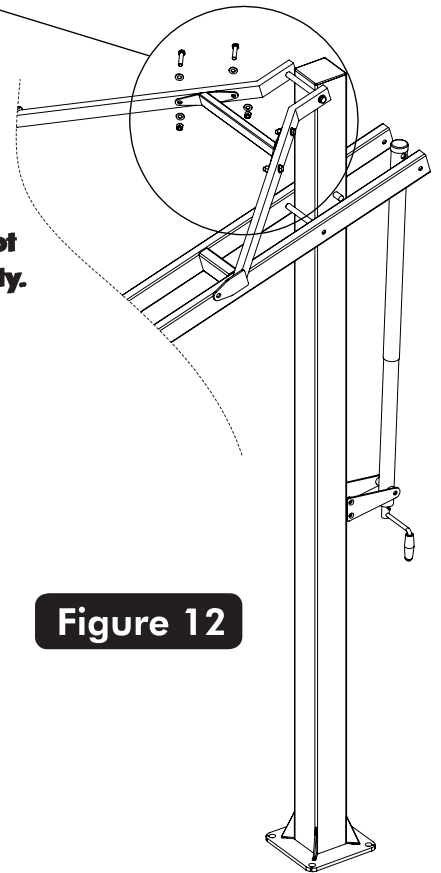

Figure 12
18. With the help of another adult attach the Cross brace (#52) with four Bolts (#50), eight Washers (#51) and four Nuts (#49) as shown in Figure 12 and Detail C.